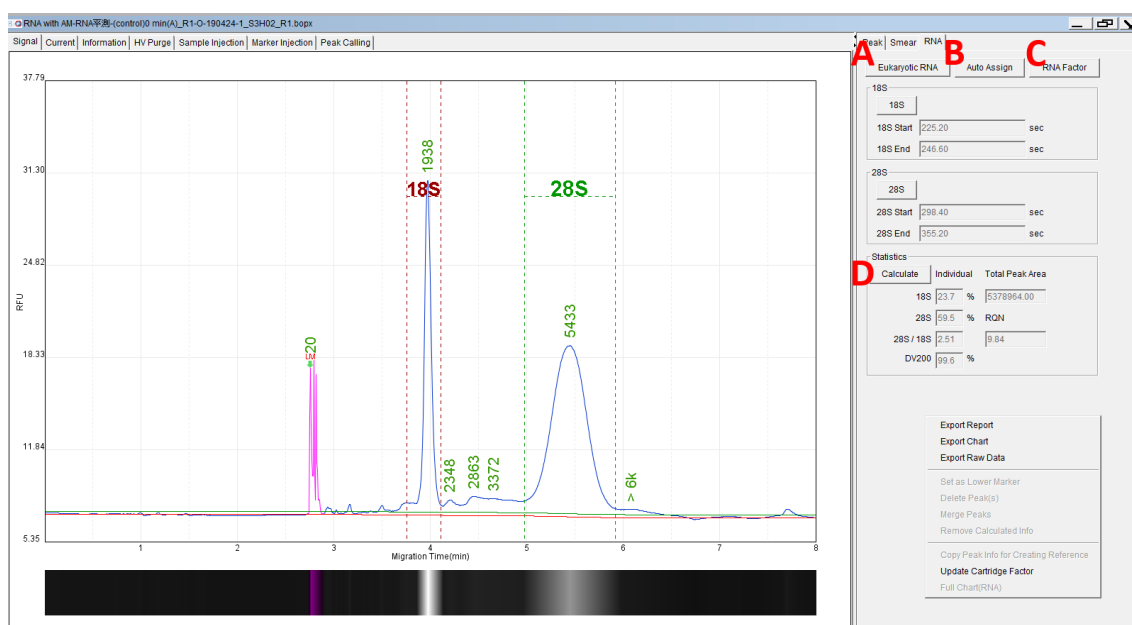

Figure 5-18 RNA Quality Check Panel
- Step 2. Select **Eukaryotic RNA** or **Prokaryotic RNA** (Figure 5-18 A)
- Step 3. Click **Auto assign** to assign the orange and green lines for “18S”, “28S” RNA (Eukaryotic) or “16S”, “23S” RNA (Prokaryotic) (Figure 5-18 B).
- Step 5. If you want to save the settings, click **RNA factor** button to edit and save the RNA factor table (Figure 5-18 C).
- Step 6. Click **Calculate**, the 28S/18S or 23S/16S ratio and the RQN (RNA Quality Number) will appear on the screen (Figure 5-18 D).